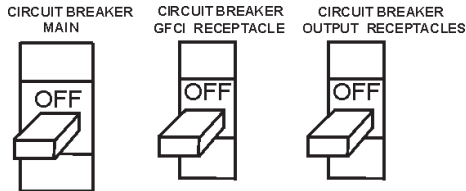

Figure 75. Main, GFCI and Load circuit breakers
1. Switch both the MAIN, GFCI and LOAD circuit breakers (Figure 75) to the "OFF" position.